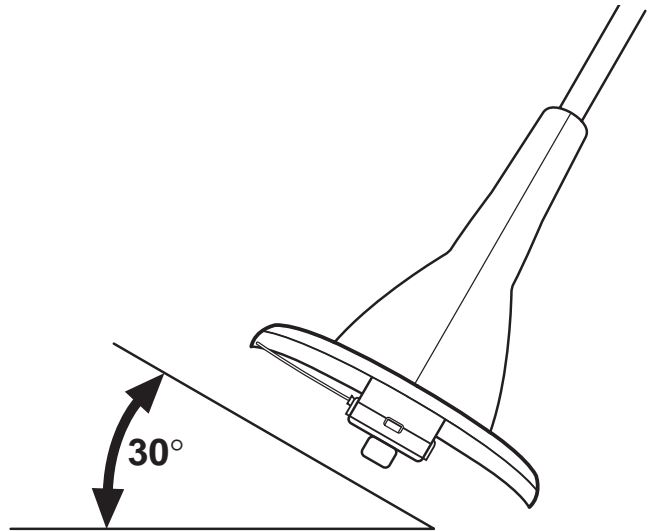

Fig. 12
- Keep the string trimmer tilted toward the area being cut. To trim around trees, posts, fences, etc., keep the string trimmer at a 30-degree angle. *See Figure 12.*